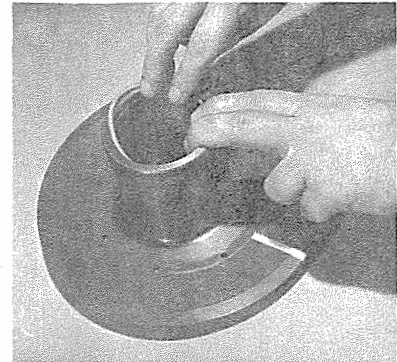

Figure 34
1. Moisten the bore of the adjustable flange with a light coat of oil. Spread a light coat of oil on the o-rings. Insert the two new o-rings into the grooves in the bore, as in Figure 34.